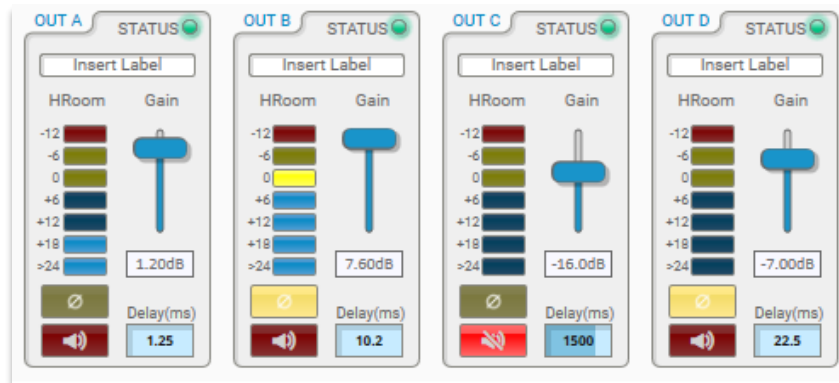

Figure 9 – Screenshot of the Output Section of a (4) Channel Amp.
- The Output Section is made up of the following controls (Figure 9):